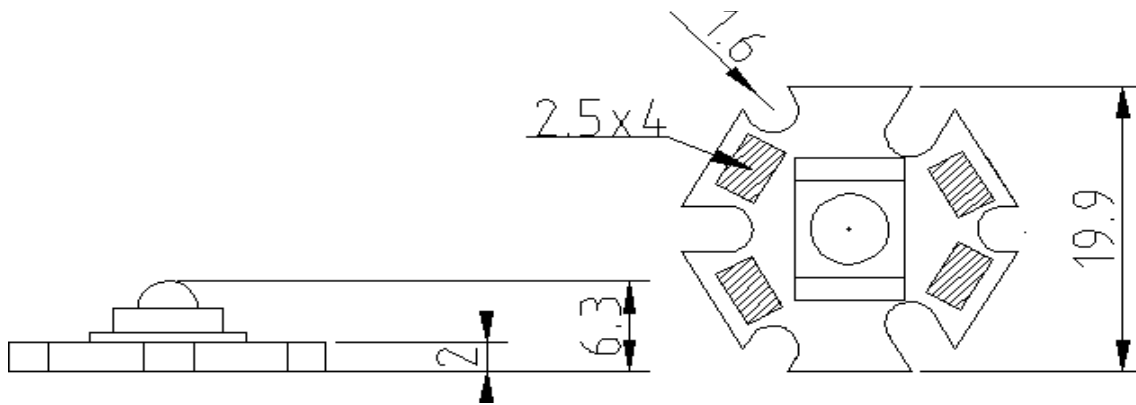
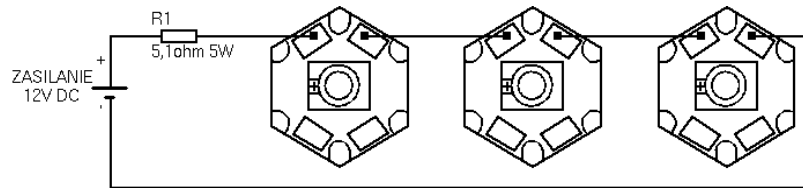
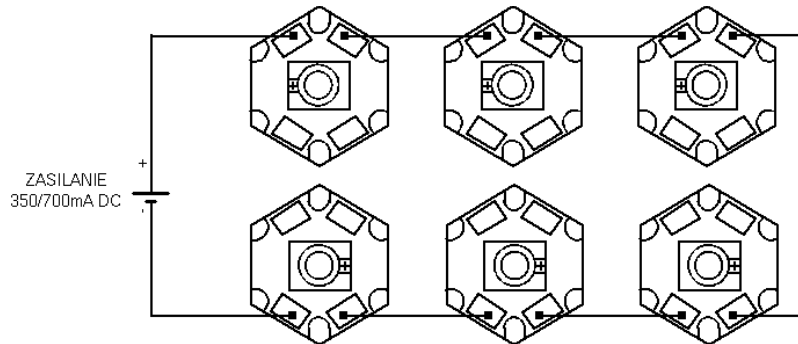
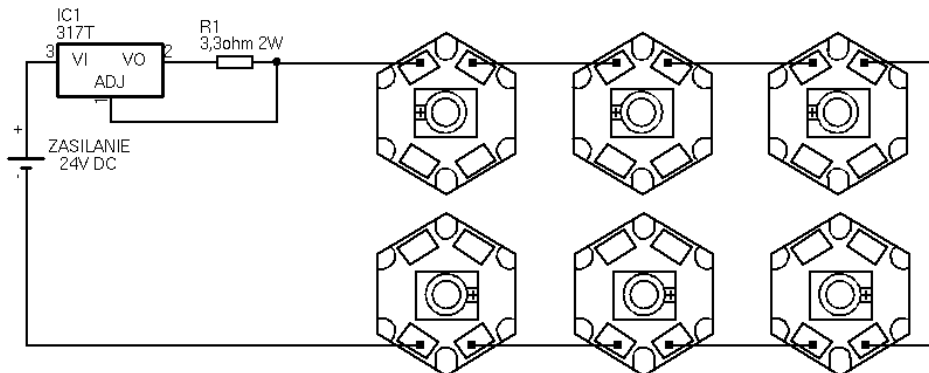

Fig.1. Mechanical dimensions of STAR XR module.
Fig.2. Three serial connected STAR-XR modules, drive voltage 12 V.
Fig.3. Six STAR-XR modules, drive current 350/700 mA.
Fig.4. Six STAR-XR modules, drive voltage 24 V with LM317T stabilizer.
5. There are examples of STAR-XR connections on the following page. It is recommended to drive modules by current, using special current power supplies (Fig.2). It is possible to drive modules by voltage using stabilized voltage power supplies with serial resistor (Fig.1) or LM317 circuit in current stabilization mode (Fig.3). STAR-XR modules are adjustable to connecting them parallel (Fig.4).